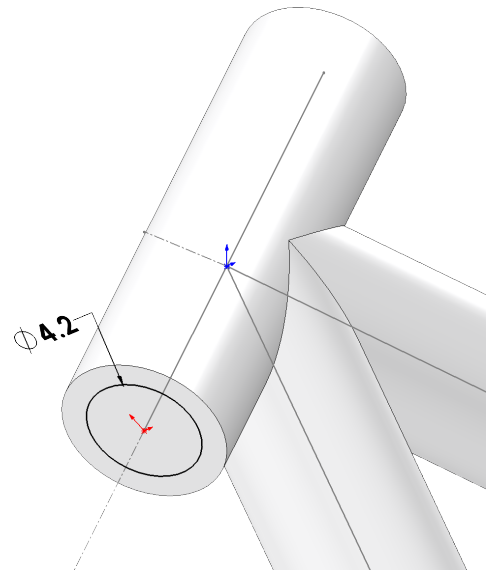

Fig. 21
Step 3. Click Circle  (S) on the Sketch toolbar.
Step 4. Sketch a circle at Origin , Fig. 21.
Step 5. Click Smart Dimension  (S) on the Sketch toolbar.
Step 6. Dimension diameter 4.2, Fig. 21.